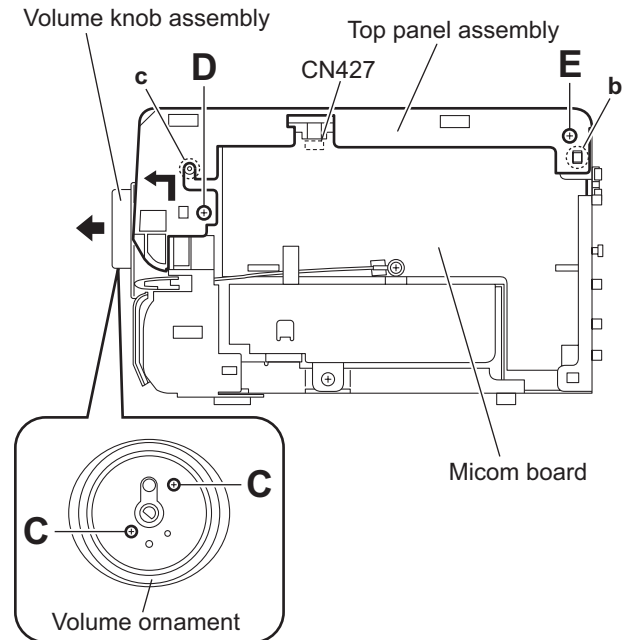

Fig.5
3.1.2 Removing the top panel assembly (See Figs.5 to 6)
- (1) From the front side of the main body, pull out the volume knob assembly in the direction of the arrow. (See Fig.5.)
- (2) Remove the two screws **C** and remove the volume ornament. (See Fig.5.)
- (3) From the both sides of the main body, remove the two screws **D**, two screws **E** and screw **F**. (See Figs.5 and 6)
- (5) From the both sides of the main body, release the joints **b** and remove the joints **c** in the direction of the arrow. (See Figs.5 and 6.)
- (6) Disconnect the card wire from the connector **CN427** on the micom board while lifting the top panel assembly. (See Fig.5.)